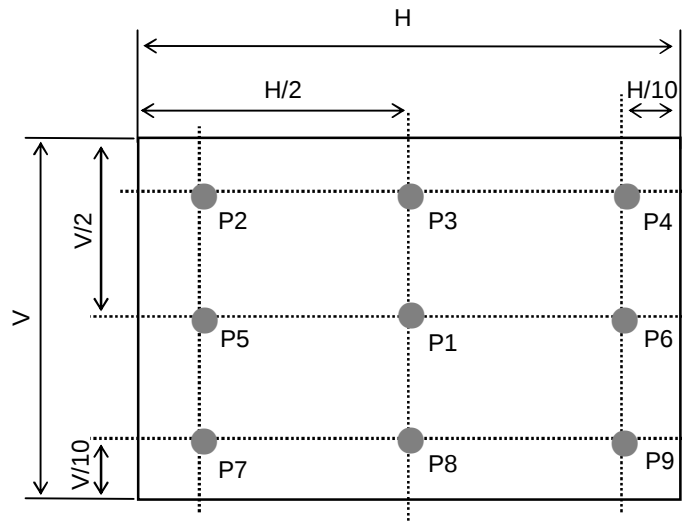

FIG. 2 Measure Point for Luminance
2. Surface luminance(L_{WH}) is luminance value at Center 1 point(P1) across the LCD surface 50cm from the surface with all pixels displaying white. For more information see FIG 2. **(By PR880)**
For more information see FIG 2.